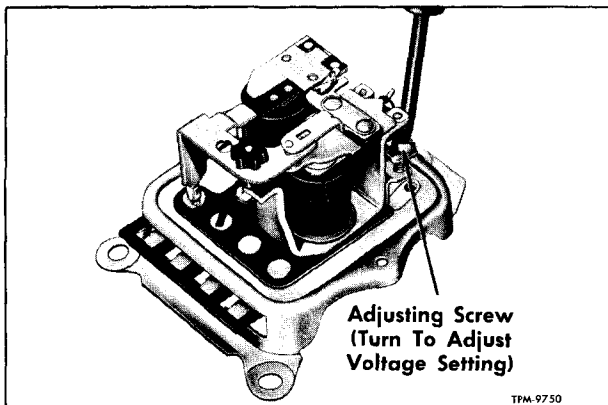

Figure 14—Adjusting Voltage Setting (Two-Unit Regulator)
7. To adjust the voltage setting, turn adjusting screw as shown in figure 14.